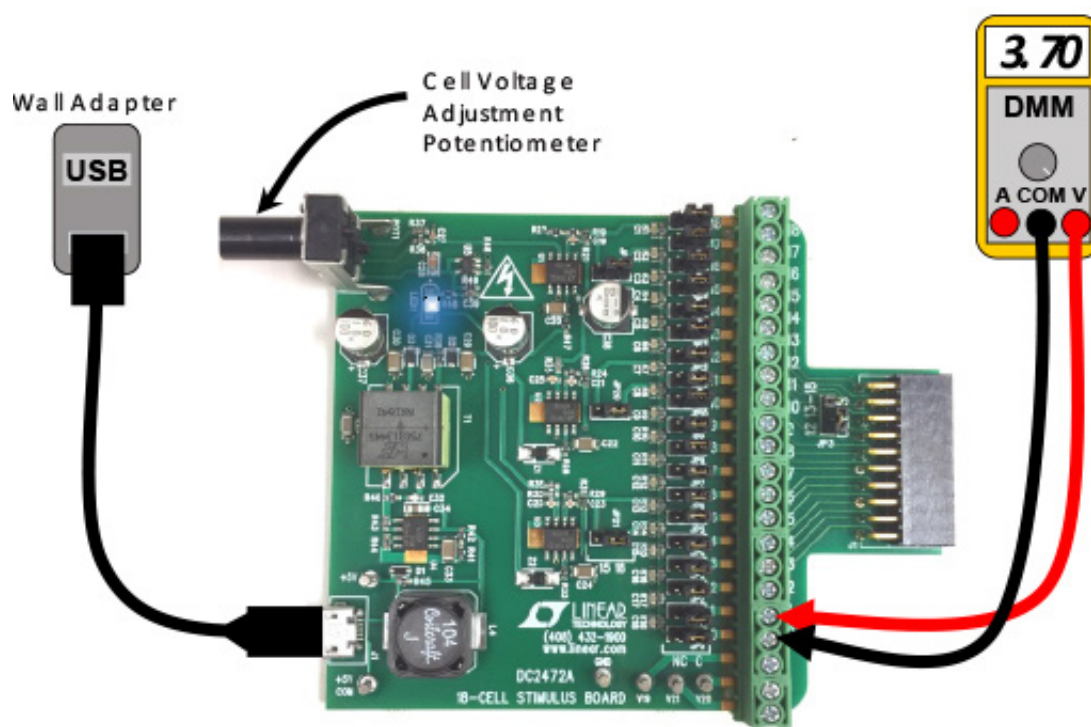

Figure 2. Cell Voltage Setting
3. Adjust potentiometer to provide a desired equivalent cell voltage as shown in Figure 2. Note that there will be some variation in voltages amongst “cells” due to component tolerances.